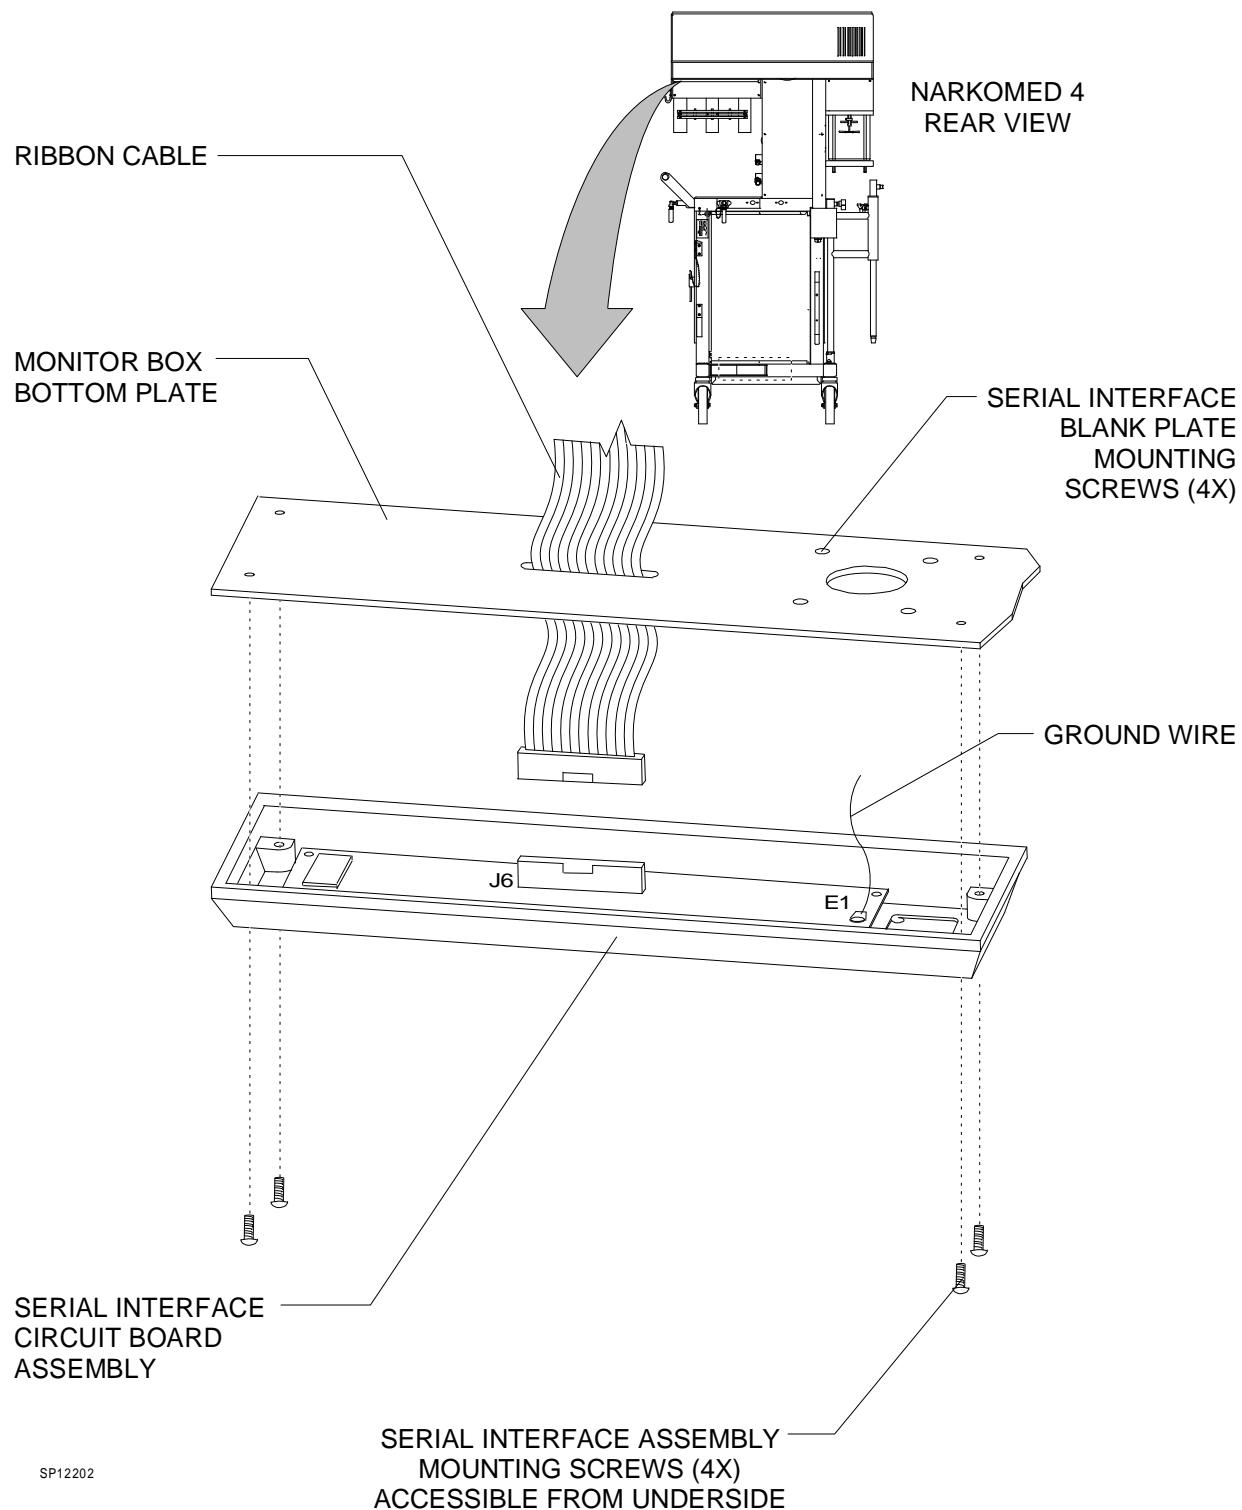

Figure 1: SERIAL INTERFACE ASSEMBLY AND NETWORK CONNECTOR LOCATION
6. Loosen the four captive mounting screws holding the serial interface housing to the underside of the monitor box. See Figure 1.
9. Remove the four screws securing the serial interface blank plate to the bottom plate of the monitor box. See Figure 1.